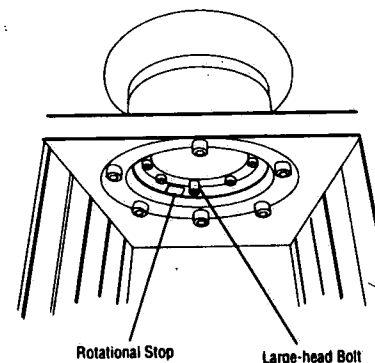

Figure 3-13. Rotational Stop "D" - Selected Fixed Height Models
- Other fixed height models are equipped with a rotational stop adjusted by relocating a socket head bolt inside the support head (see Figure 3-13) as follows.
3. Locate and remove the socket head bolt with the largest head (see Figure 3-13). The large-head bolt is in direct contact with the rotational stop inside the support head.